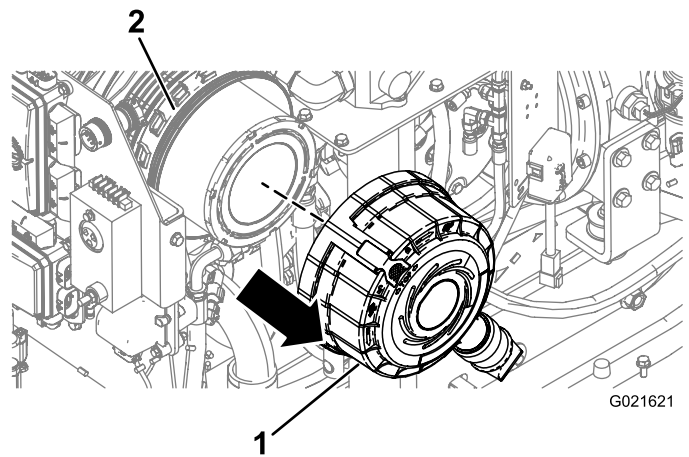

Figure 118
7. Pull the air-cleaner cover away from the filter housing and remove the cover (Figure 118).
3. Align the air cleaner filter cover with the filter housing (Figure 118).